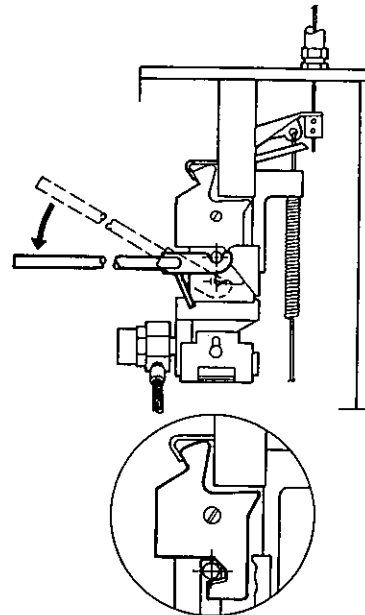

FIGURE 51
11. With a downward motion of the cocking lever, raise the cocking pin until trip hammer indented surface moves underneath the pin. See Figure 51.